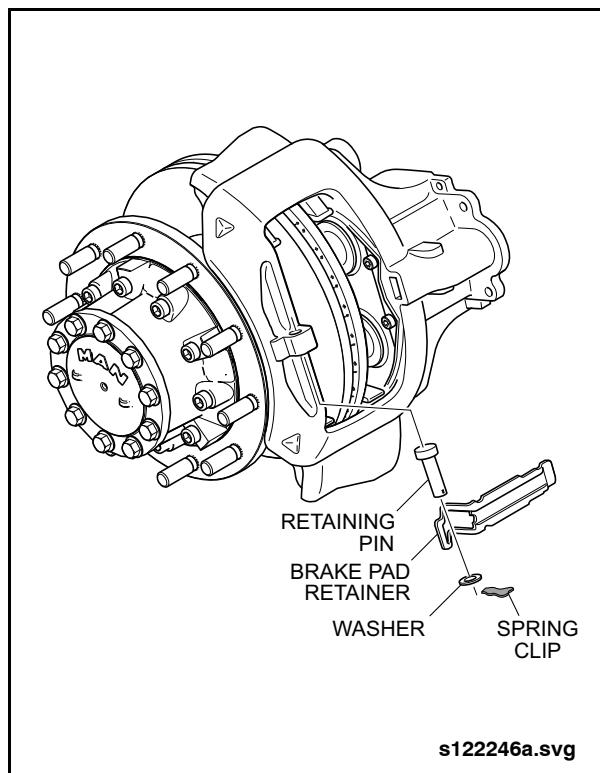

Fig. 2-123: Brake Pad Retainer Installation
- a. Insert the inboard end of the pad retainer into the groove and apply sufficient downward pressure to allow insertion of the retaining pin. See “Fig. 2-123: Brake Pad Retainer Installation” on page 108.